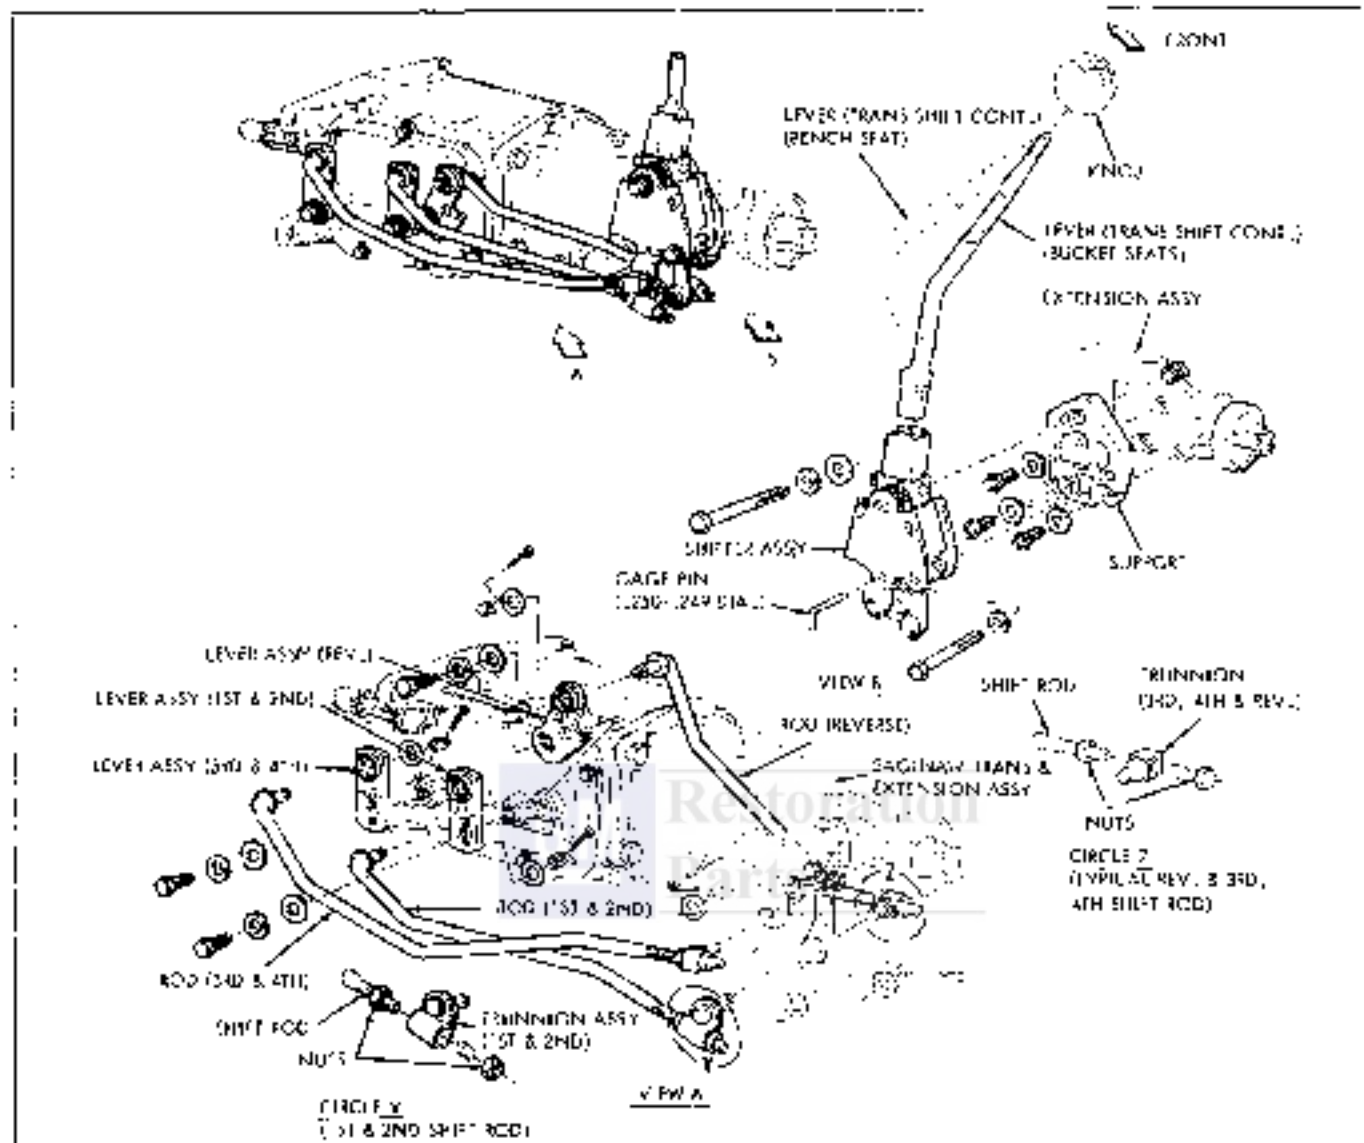

Fig. 7C-1 1968 Pontiac Shift Linkage
5. Remove both shift forks from shifter shaft assemblies. Remove all three shifter shaft assemblies. Remove reverse shifter shaft detent ball and spring. (Fig. 7C-3)